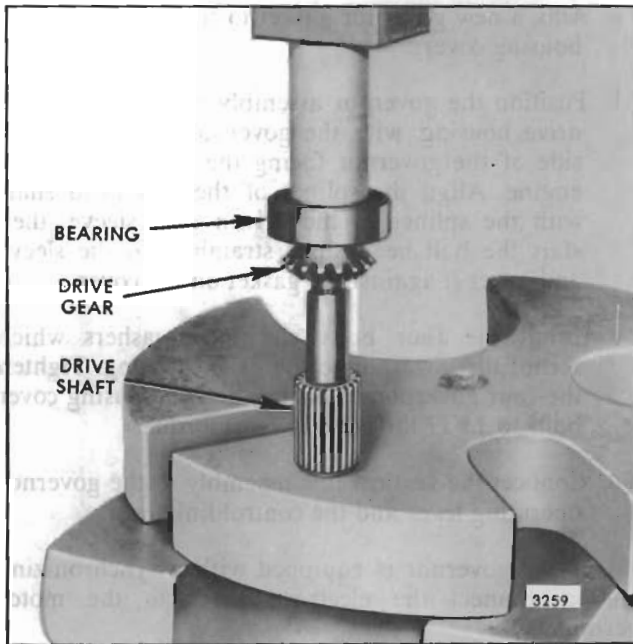

Fig. 8 - Installing Drive Gear and Bearing on Drive Shaft
d. Place the drive shaft, gear and bearing assembly on the bed of an arbor press with the bearing and gear end up (Fig. 8). Then place a sleeve or a round brass bar on the inner race of the bearing